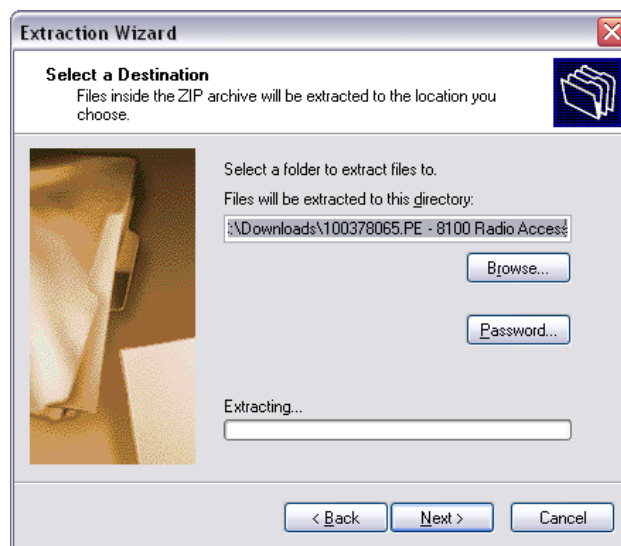

Figure 2-2: Using the Extraction Wizard
5. Use the *Extraction Wizard* to extract the files to a known location, as shown in Figure 2-2.